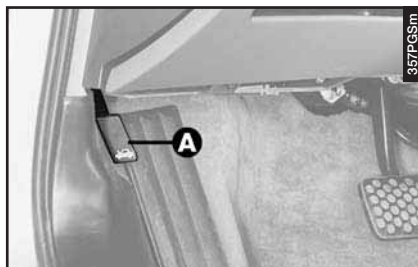

fig. 141
- Pull the lever (**A-fig. 141**) until the bonnet clicks open.